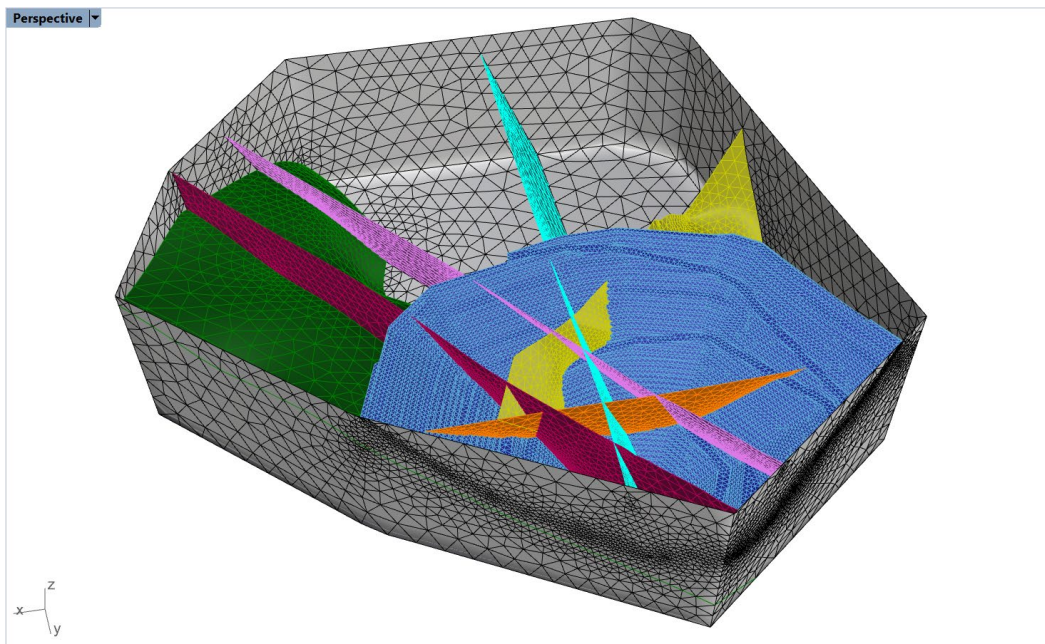

Figure 88: Final triangular surface meshes (the pit dump and topo meshes are not shown).
34. Remesh all meshes using **\_GSurf**: *Mode* = *Tri*, *MinEdgeLength* = 10, *MaxEdgeLength* = 75, *RidgeAngle* = 10° and *AdvancedParameters: MaxGradation* = 0.2, *Optimization* = 10, *ShapeQuality* = 0.9, and *OutputMesh* = *Separated*. The results are shown in Figure 88.